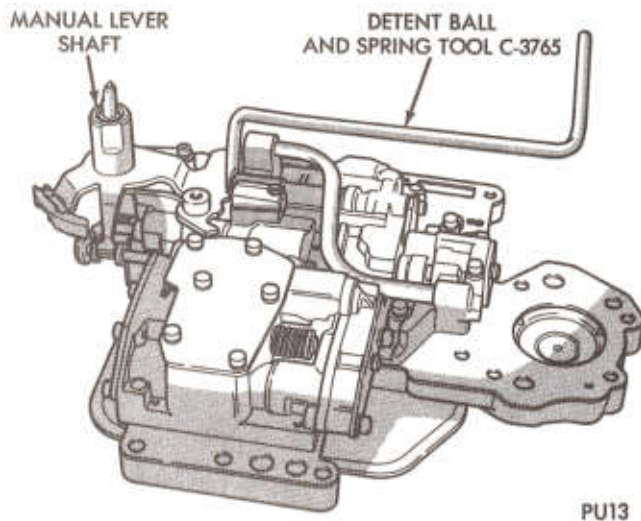

Fig. 8—Install Detent Spring and Ball
(1) Install throttle valve, throttle valve spring, kick-down valve, and kickdown detent sleeve.
(2) Slide manual valve into its bore.
(3) Install throttle lever and shaft on valve body. Insert detent spring and ball in its bore in valve body. Depress ball and spring with Tool C-3765 (Fig. 8) or similar tool and slide manual lever over throttle shaft so that it engages manual valve and detent ball. Install seal, retaining washer, and E-clip on throttle shaft.